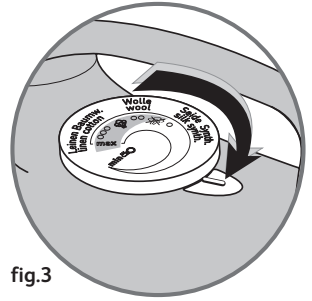

fig.3
- Select the temperature (see table below or iron's heel) setting the thermostat facing the indicator (fig.3).